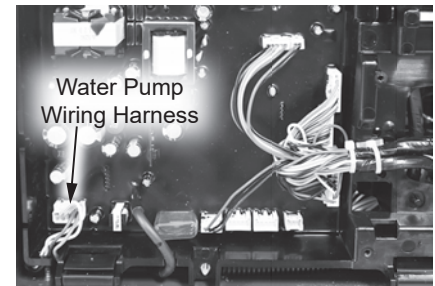

Figure 177 - Water pump wiring harness location
- 14 Locate the water pump wiring harness on the control board panel as shown in Figure 177. Disconnect and route the wiring out of the way for ease of removing the water pump.
- 30 Place the water pump into the water heater cabinet, routing the wiring harness cable behind the condensate collector and under the control board panel as shown in Figure 177. Use caution not
**35** Lift the control board panel up and reconnect the water pump wiring harness previously disconnected in **Step 14**. Slide the wiring through the slot in the circuit board panel as shown in Figure 177. Lower control board panel.